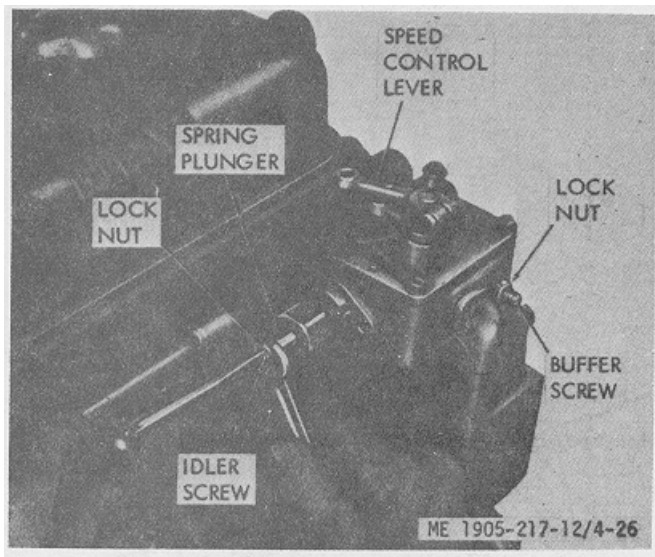

Figure 4-26. Adjusting engine idle speed.
(1) With the engine running at normal operating temperature, turn the buffer screw (fig. 4-26) in so that it contacts the differential lever as lightly as possible and still eliminates "engine roll".